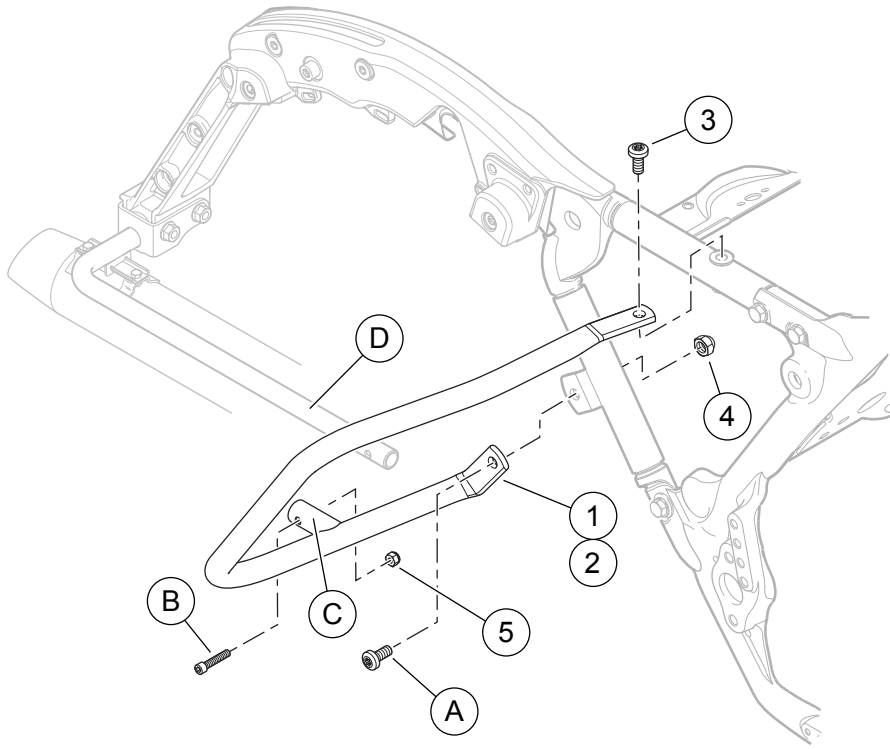

Figure 1. Service Parts, Saddlebag Guard Kit
See Figure 1 and Table 1.
3. See Figure 1. Remove the 1/4-20 hex socket screw (B) and locknut (5) securing the short tube (C) on the saddlebag guard (1 or 2) to the front of the saddlebag support tube (D). Retain the screw for later assembly. The locknut can be recycled or properly disposed of.
4. Remove the 3/8-16 TORX® screw (A) and locknut (4) retaining the bottom of the saddlebag guard to the frame downtube. Retain the screw for later assembly. The locknut can be recycled or properly disposed of.
5. Remove and recycle the 3/8-16 TORX screw (3) retaining the top of the saddlebag guard to the upper frame tube. Carefully slide the short tube away from the saddlebag support tube, and remove the guard from the vehicle.